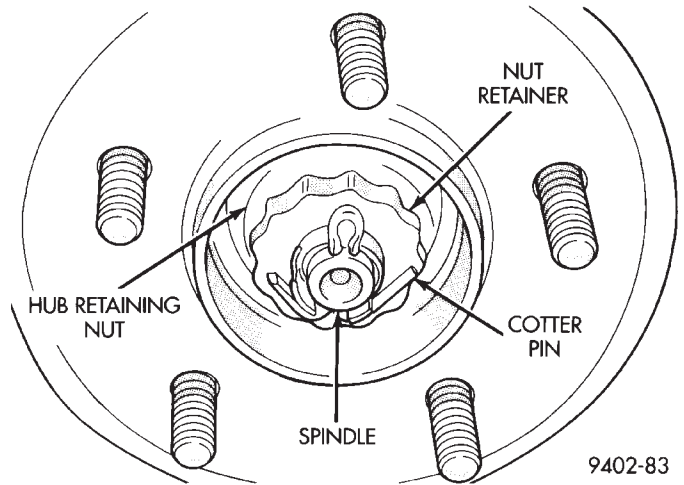

Fig. 23 Hub And Bearing Retaining Nut and Washer
(5) Remove rear hub and bearing assembly cotter pin and nut retainer (Fig. 23). Remove the hub and bearing retaining nut and washer from the spindle (Fig. 23). Then remove hub and bearing assembly from spindle.
(8) Install the rear hub and bearing assembly on the rear spindle. Install hub and bearing assembly retaining washer and nut on spindle (Fig. 23). Tighten the hub and bearing retaining nut to a torque of 168 N·m (124 ft. lbs.).